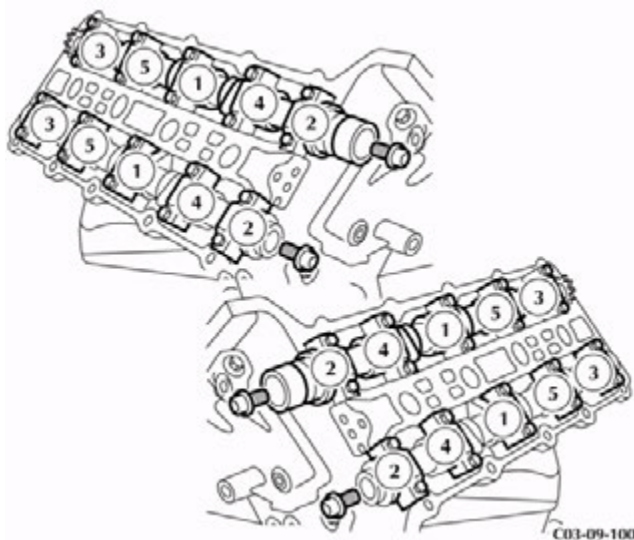

Figure 4
4. Install and torque the ten bolts in the sequence shown in Figure 4.